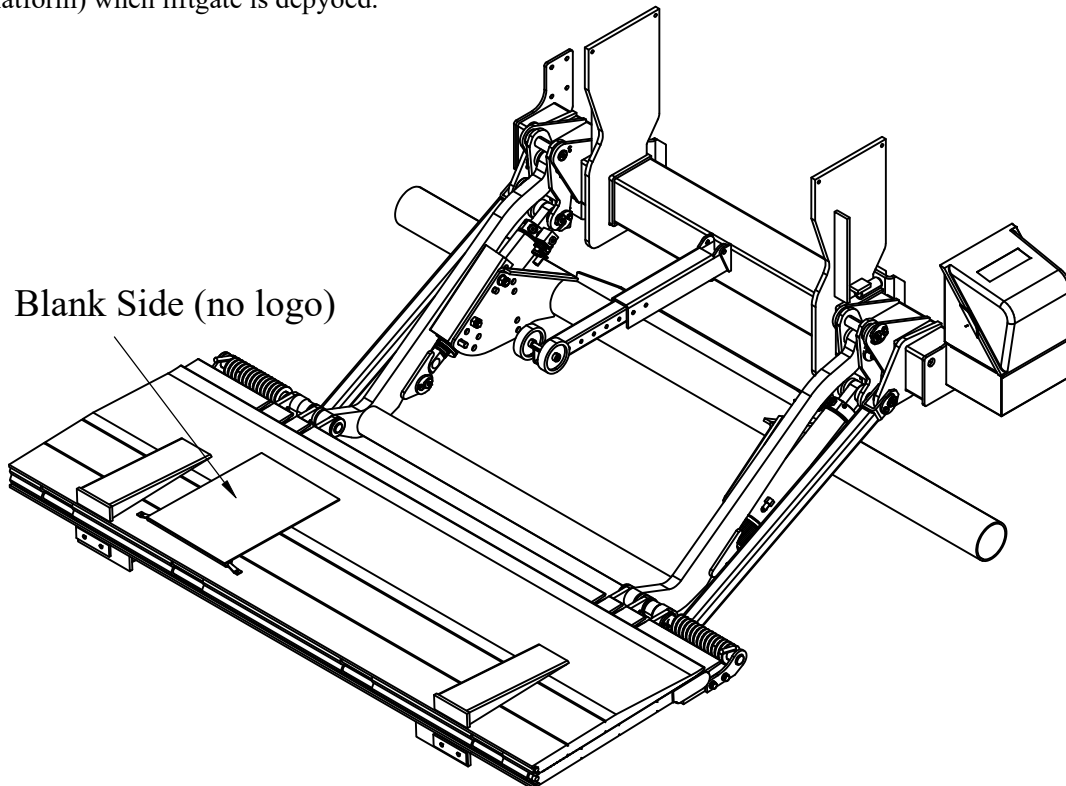

Figure 33: Platform Reflective Flags.
2. Identify the four (4) holes on the platform (Figure 33).
Note: Before riveting the flags, make sure they have the Tommy Gate logo facing the platform and the blank side facing up (Figure 33).